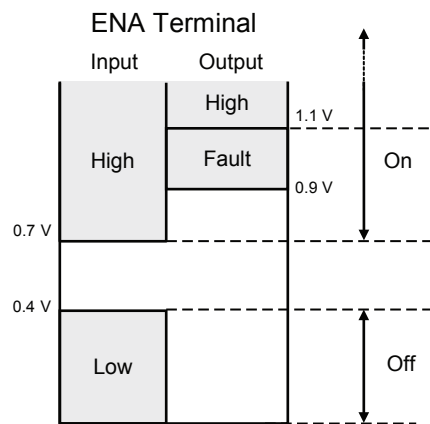
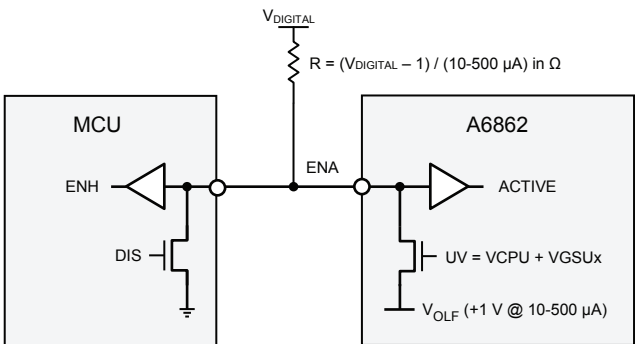

Figure 7: ENA Terminal Input and Output Levels
Figure 8: ENA Connection
A typical connection arrangement to use this feature is shown in Figure 7 and Figure 8 and a representative sequence shown in Figure 9.
The arrangement permits three specific states (see Figure 7):
* For signals, see Figure 8